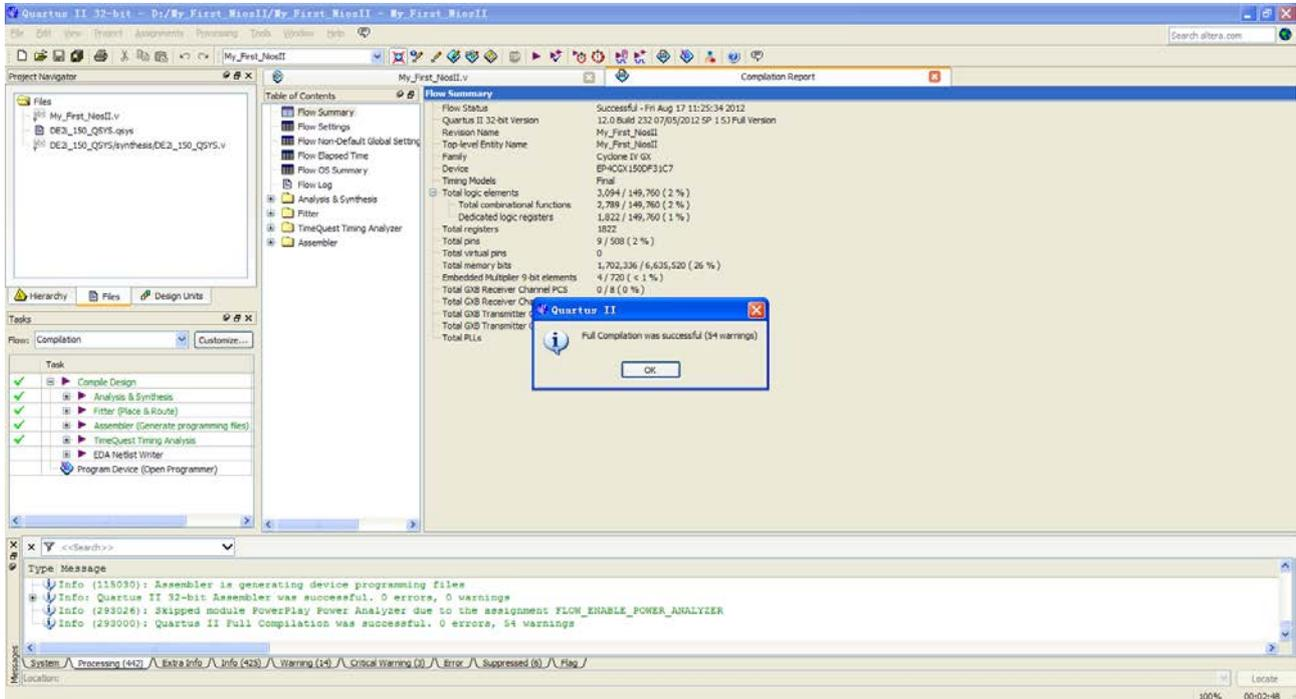

Figure 1-64 Compilation project completely
38. A window that shows successfully will appear as shown in Figure 1-64.